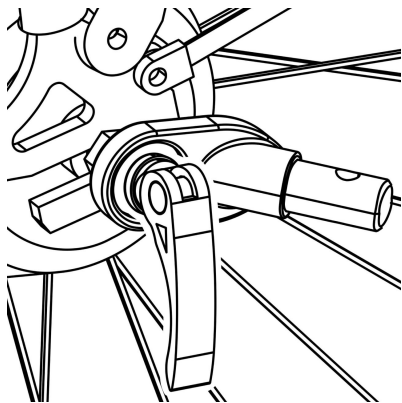

Figure 1
**1. Quick-release Axle:** Remove the quick-release from the left side of bike's rear axle. Install the hitch between the quick-release and frame. Tighten the quick-release following the bike manufacturer's manual. Hitch can remain on the bike when the trailer is removed (Figure 1).